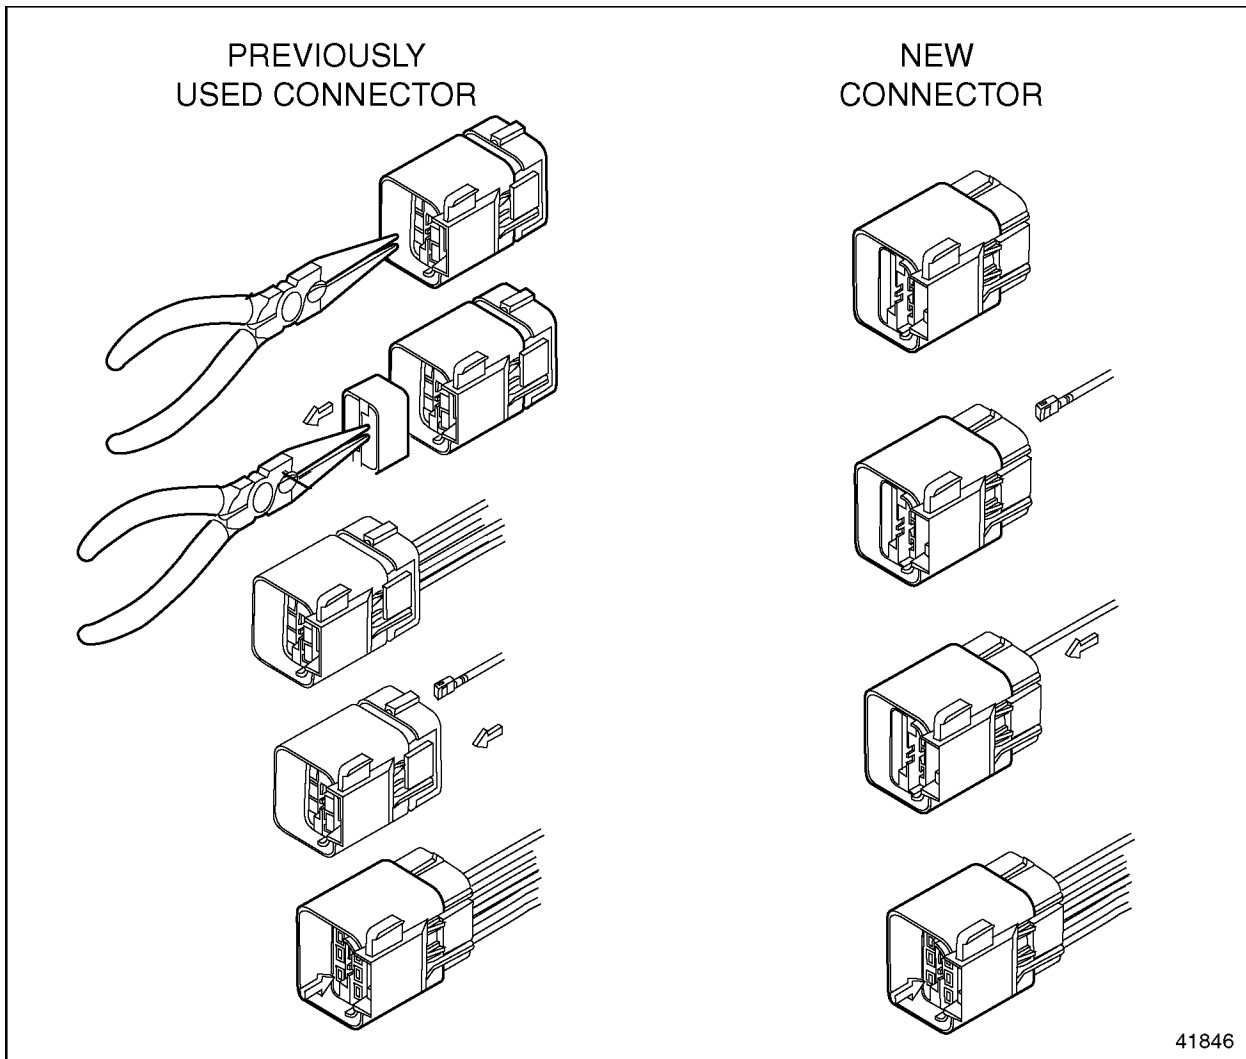

Figure 3-28 Installing the Terminal
- [b] If the connector is used, pull the TPA out (see Figure 3-28).
2. Insert the crimped terminal into the connector until it clicks (see Figure 3-28).